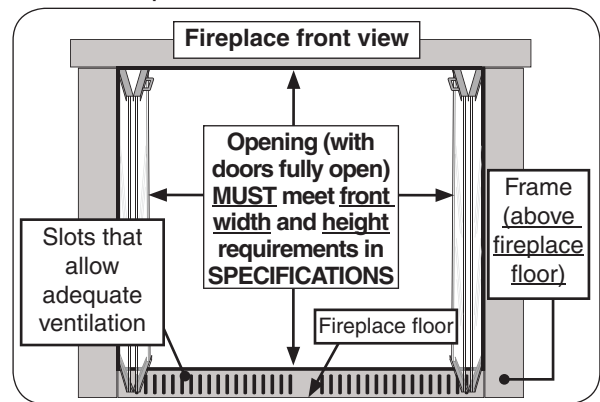

Fig. 9-2 Glass doors frame ventilation (if applicable)
If this burner system is installed in a fireplace with glass doors, and the doors have a frame that obstructs airflow to the fireplace floor, the frame **MUST** have slots (above the fireplace floor) that allow adequate ventilation. See Fig. 9-2.
**Important:** The opening (with doors fully open) **MUST** meet the minimum fireplace size front width and height requirements. See SPECIFICATIONS section and Fig. 9-2.